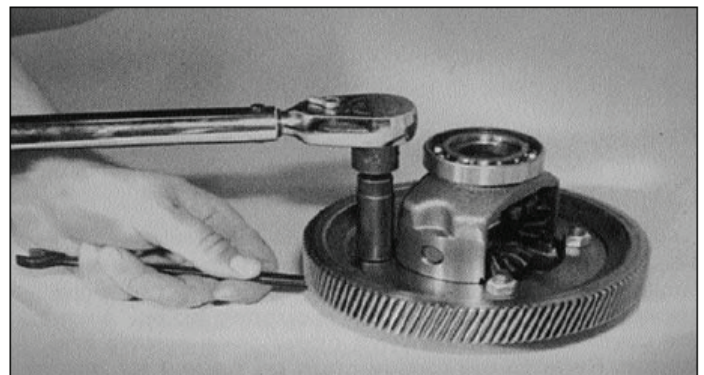
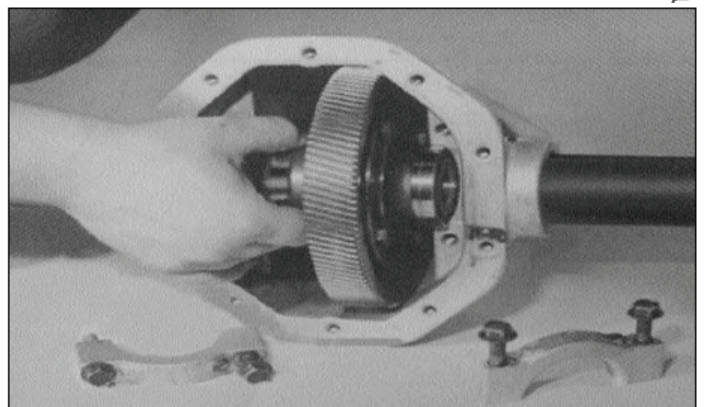

Figure 7-24. Torquing Differential Case Nuts
Figure 7-25. Installing Differential Case Assembly
8. After flanged side bearing is seated past snap ring groove, install snap ring (16). Repeat procedure for opposite side bearing and snap ring.
9. Position differential case assembly (4) with flanged side trunnion face down on work surface. Align output gear (5) mounting holes with differential case. Install four bolts (6) and nuts (7). Bolts should be installed from differential flange side. Torque nuts to 35-45 ft. lbs. (47-61 Nm). See Figure 7-24.
10. Differential bearings (8) can be installed on differential case (4) before or after installing ring gear. Use care not to damage differential bearings or final gear (5) when installing the opposite component.
11. Position housing (1) with opening facing up. Insert differential case, output gear (5) and bearing (8) assembly into housing. Make sure teeth of gear (5) mesh with teeth of small gear on intermediate shaft (9) and that both turn freely. See Figure 7-25.